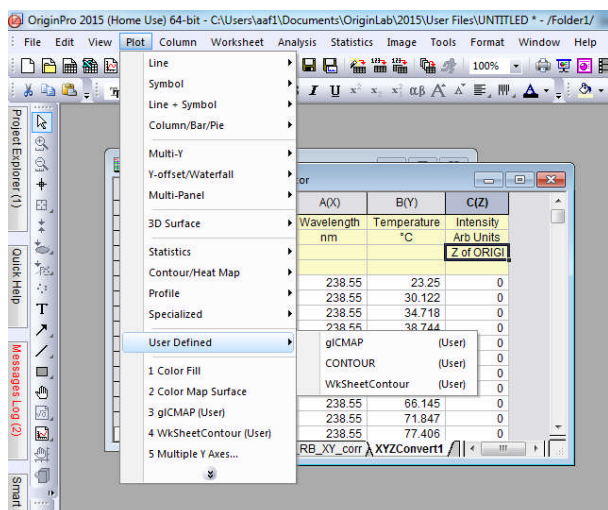

Figure 14: Plotting using Templates
- p) Click Plot >> User Defined >> gICMAP (for 3D graphs) or >> WkSheetContour for Contour maps (Figure 14).